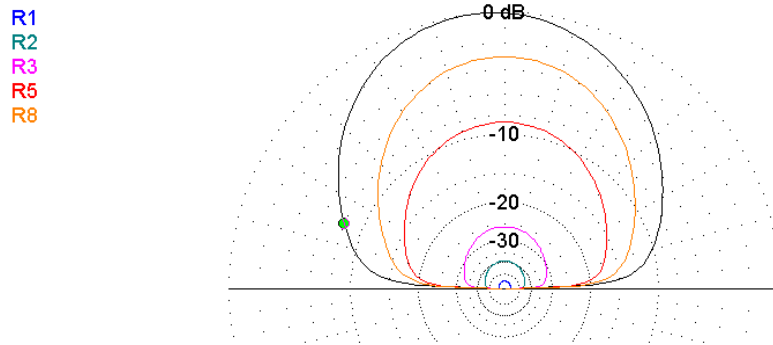
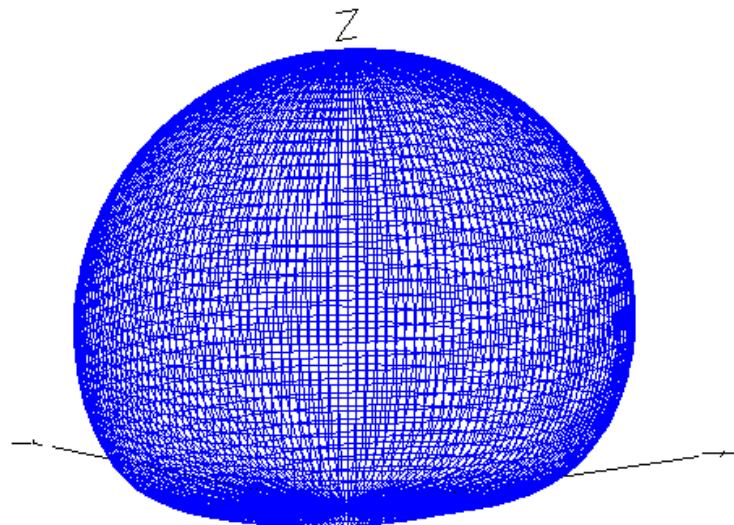

Figure 2:
Figure 3:
2. ARRL used a well-known antenna-modeling program, EZNEC PRO2 3.0 with the NEC-2 calculation engine3 to model a simple medium-voltage (MV)4 neighborhood- distribution power line. The frequency of the signal was varied from 0.1 to 50 MHz. The number of segments per line was increased as necessary as the frequency was increased.
3. Table 1 shows the calculated gain of the power-line antenna model at different frequencies. Figure 1 is a graph of part of the data in Table 1. Figure 2 shows the antenna pattern of the model at various frequencies. The antenna patterns at selected frequencies are shown in Figure 1 and a graph showing the variation in gain vs frequency is shown in Figure 2. Above 1 MHz, the gain continued to increase, although the complexity of the radiated patterns also increased, with significant directivity and peaks and nulls. Examples of this are seen in the patterns of Figures 3 through 5.